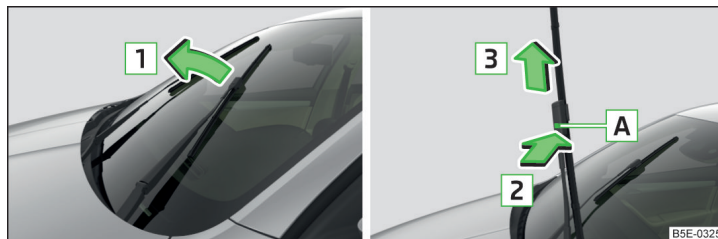

Fig. 212 Windscreen wiper blade
- Lift the wiper arm from the window in the direction of [1] » Fig. 212.